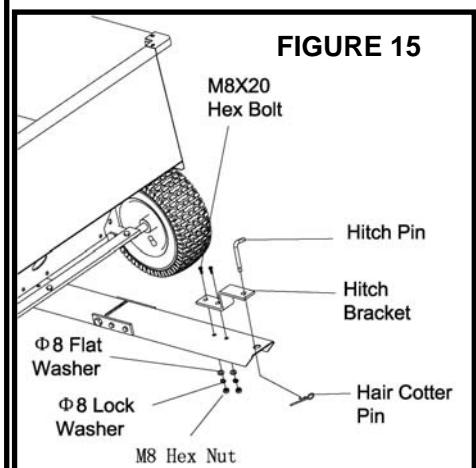

FIGURE 15
33. Assemble the hitch bracket to the front tongue section using two M8X20 hex bolts, Ø8 lock washer, Ø8 flat washer and M8 hex nuts. Tighten. See **Figure 15**.
34. Assemble the hitch pin through the hitch bracket and the tongue and secure with the hair cotter pin shown in **Figure 15**.